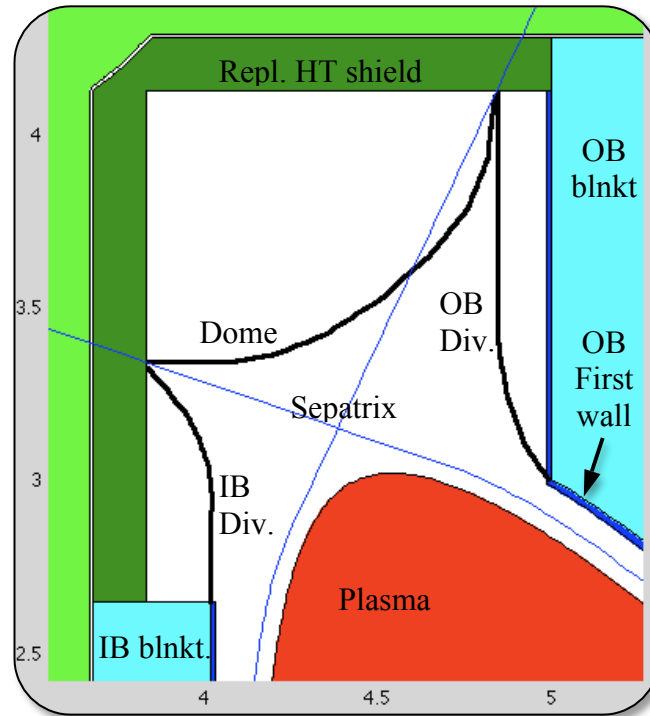

Figure 2. Upper three divertor plates scaled from ARIES-AT. IB (left), dome (top), OB (right) (12/2011)
- # 1. **IB:** Start on top-right corner of the IB blanket and scale the normalized sample IB vector “x,ynorm0” until it strikes the replaceable HT shield. See Figure 2.
- # 1. **IB:** Start on top-right corner of the IB blanket and scale the normalized sample IB vector “x,ynorm0” until it strikes the replaceable HT shield. The top-left corner is found by ksihiLeft (RefLeft = IB back wall) + dgbbw + dblkt + dgfbw + dfw. See also Figure 2.
Build the replaceable HT shield by starting at the top of the “RefLo” part and build upwards until the top of the “RefHi” is reached. Add a 45-degree angle to the rear of the repl. HT shield, then turn toward the outboard side and build until the “RefHi” is reached. Make the thickness per the input file. See Figure 2 for more clarification.